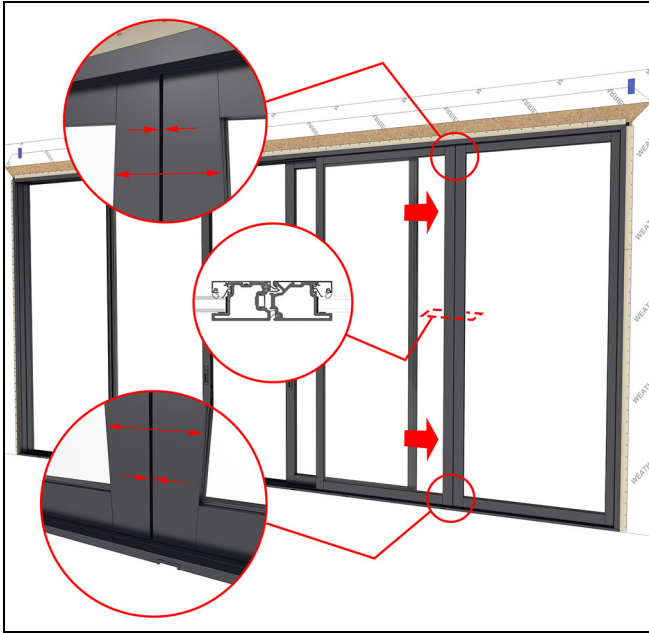

Figure 138
9. Slide the (C) panel over tight against the (H) stationary panel. Check to make sure you have an even reveal along the panel. The gap should be about 1/4" or less. See Figure 138.